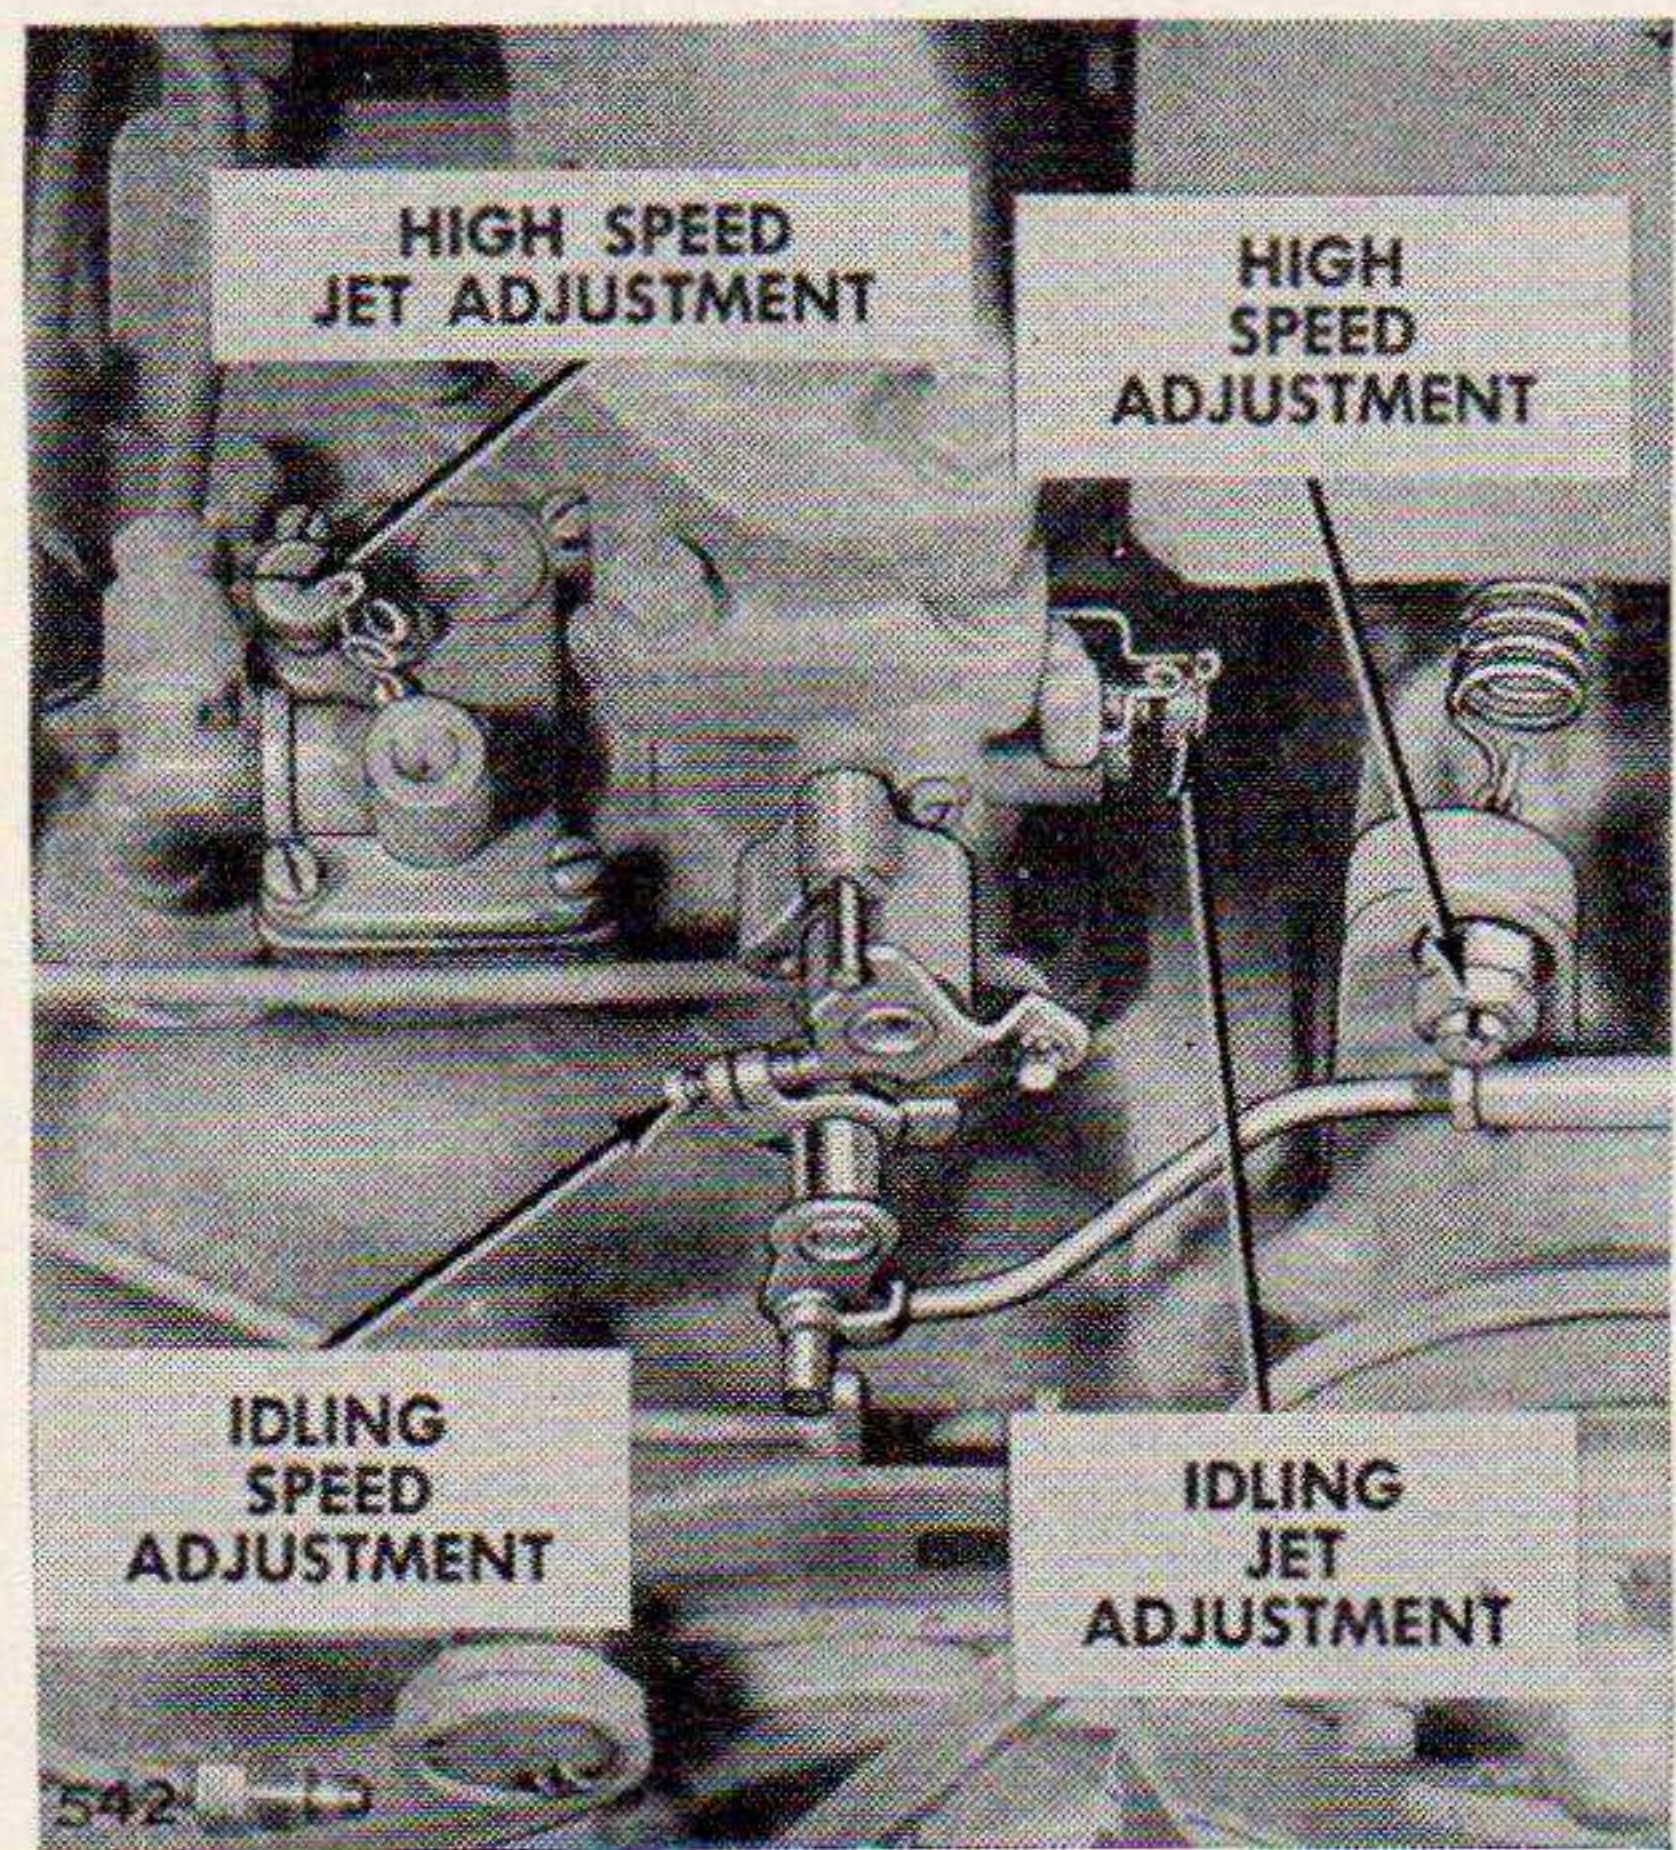

Figure 60. Carburetor adjustments.
- (1) *Description.* A Zenith TU-4C series carburetor of the down draft type is used.
- (2) *Approximate jet adjustment.* (See fig. 60.)
- (3) *Final jet adjustment* (engine running).
- (4) *Low idling speed rpm adjustment.* (See fig. 60.) The low idle speed is controlled by an adjusting screw on the carburetor throttle shaft lever assembly. This screw should be set to give a low idle of 800 rpm.
- (5) *High idle speed rpm adjustment.* (See fig. 60.) The adjusting nuts at the end of the governor spring control the high idle speed. The correct high idle speed is 3350 rpm.